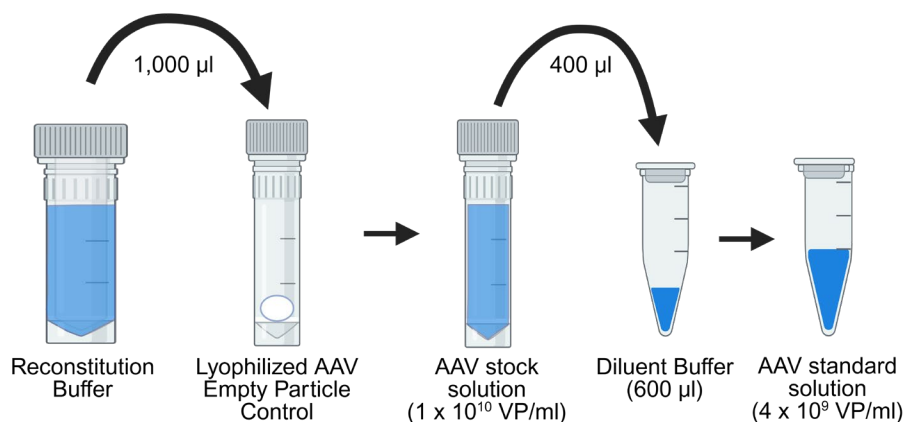

Figure 2. Preparation of the AAV stock solution and AAV standard solution.
2. Prepare an AAV standard solution (4×10^9 VP/ml) by mixing 400 µl of the AAV stock solution (prepared in Step 1) with 600 µl of Diluent Buffer. Vortex for 5 sec. See Figure 2 below for a visual aid of Steps 1–2.